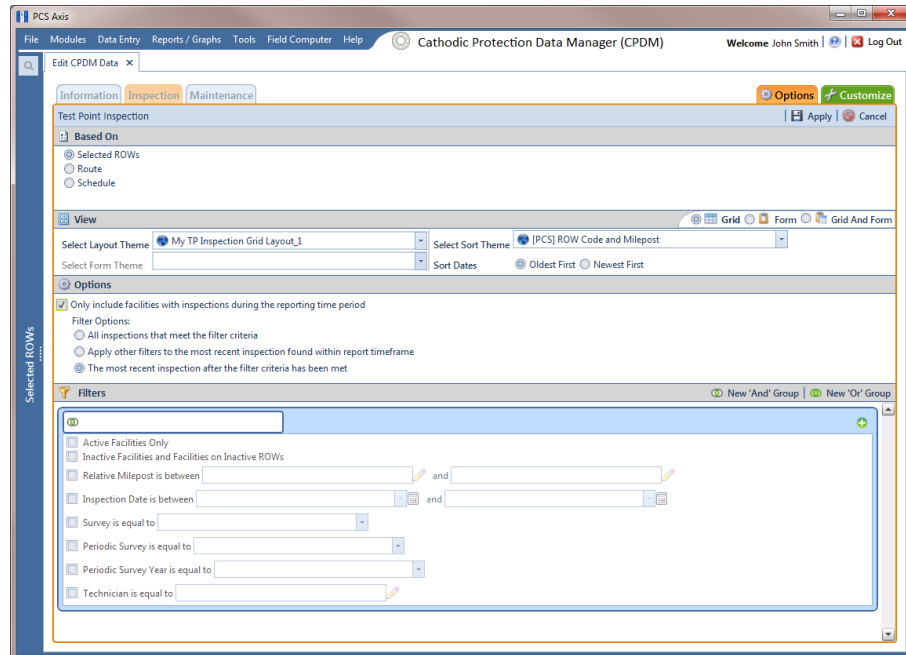

Figure 7-108. Options
- a Click the **Options** tab  to open the options page (Figure 7-108).